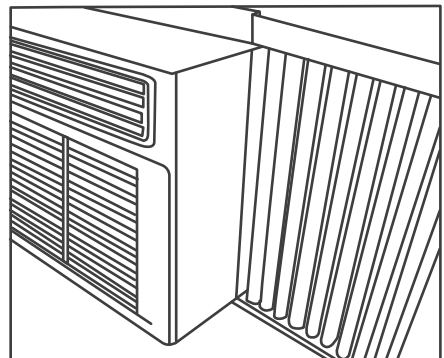

Fig.4
- Once the panel has been installed on the side of the cabinet, make sure it sits securely inside the frame channel by making slight adjustments. Slide the top and bottom ends of the frame into the top and bottom rails of the cabinet. See Fig.4.